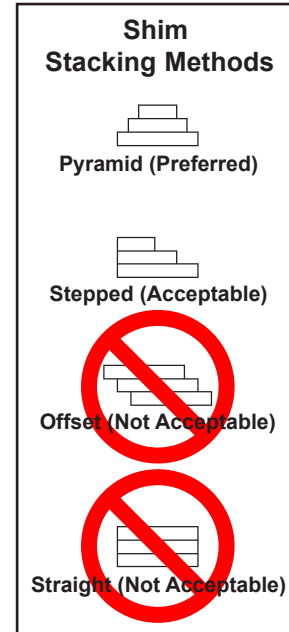

Figure 10
2. Using the results obtained in step 1, create the individual shim stacks on the pit floor at locations (**B**). Build each shim stack (**M**) using the pyramid method (preferred) or stepped method, with the top shim having a minimum size of 4-1/2" x 4-1/2" (114.3 mm x 114.3 mm) and each successive lower shim being larger so the shims can be welded together using a fillet weld. DO NOT use offset method or straight method. See Figure 10.